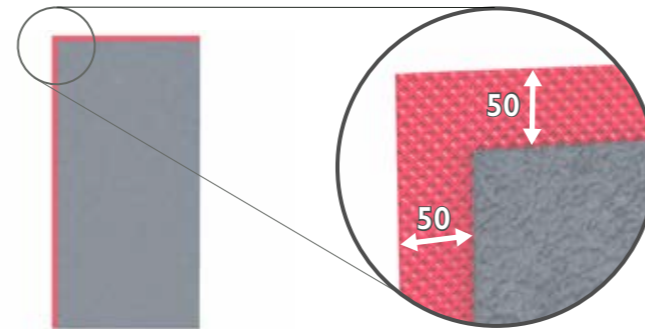

Fig.2
- Each Wraptherm sheet has two Spacetherm edges and two 50mm Wraptite lap edges. (Fig.2) Always install Wraptherm in a way that ensures the Spacetherm edges overlap the Wraptite laps of adjacent sheets. (Fig.3) Butt Wraptherm sheets tightly together to ensure thermal continuity.